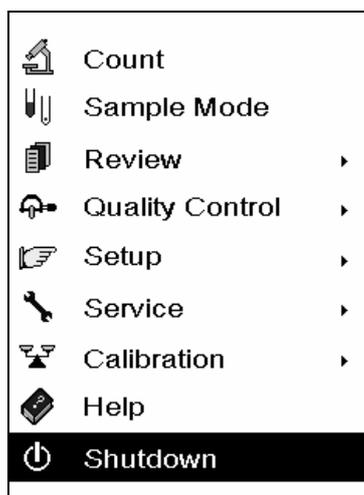

Figure 6-19 Selecting the Shutdown program
1. Press [MENU] to enter the system menu and **SELECT** “**Shutdown**”, as Figure 6-19 shows;